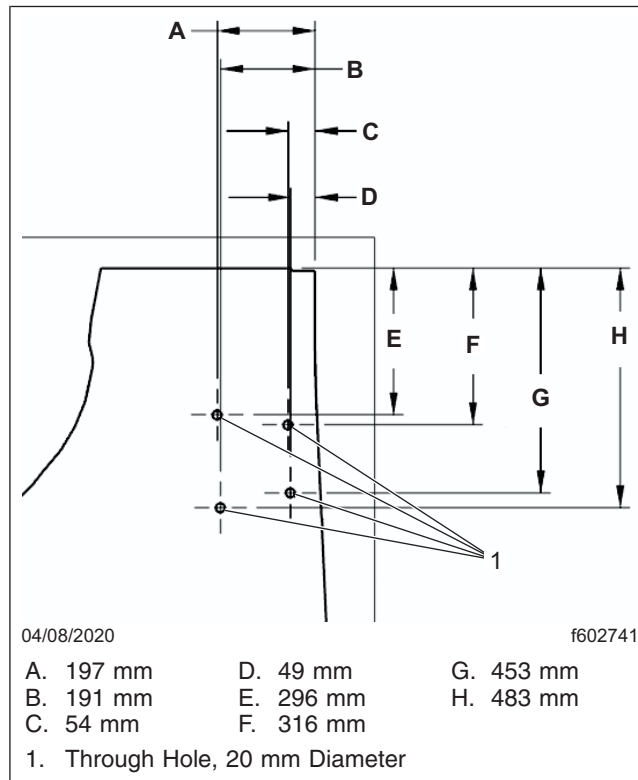

Fig. 7, Push Nut Hole Dimensions, RHD Vehicles
4. For RHD vehicles, drill four holes of 20 mm each through the floor mat with accordance to the dimensions shown in **Fig. 7** .